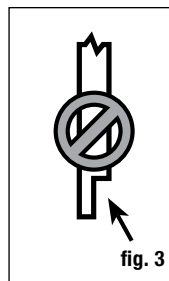

fig. 3
Step 2 Install railing posts prior to installing deck boards. Cedar or pressure-treated pine 4x4 railing posts or a post mount provides the structural strength for the railing. The length of each post is determined by the total of the joist width (typically 7-1/4") + decking thickness (1") + railing height (36") + spacing for post cap (1-1/4") = 45-1/2". **Important: Do not notch the 4x4 railing posts. Notching will reduce the strength of the post and could result in railing collapse or failure (fig. 3).** Use structural post mounts for installation on concrete.
Important: Do not notch the 4x4 railing posts. Notching will reduce the strength of the post and could result in railing collapse or failure (fig. 3). Use structural post mounts for installations on concrete.